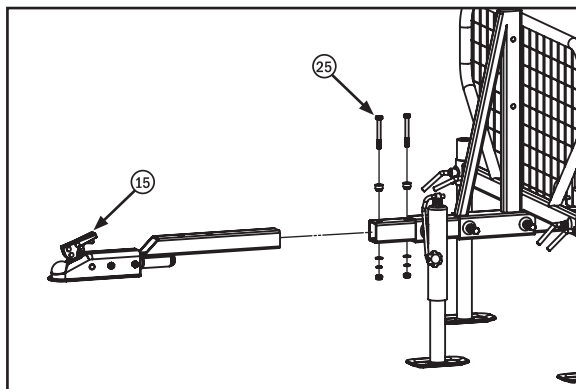
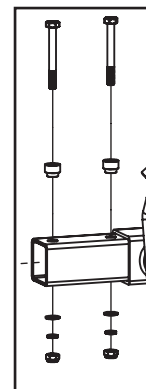

Fig. 15
Fig. 15a
Step 15: Install the Hitch Coupler. Insert the Hitch Coupler (15) onto the Frame Extension Tube (17) so that the mounting holes align (Fig. 15), then use the M10x90 Bolts with Spacers (25) with the spacer on top (Fig. 15a).